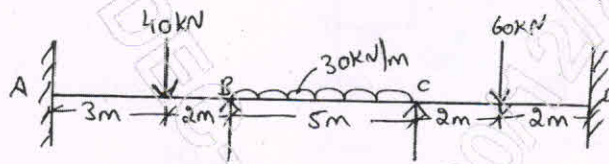

Fig.Q1 (16 Marks)
- 1 Analyze the continuous beam shown in Fig.Q1 by slope deflection method. Draw BMD and EC.